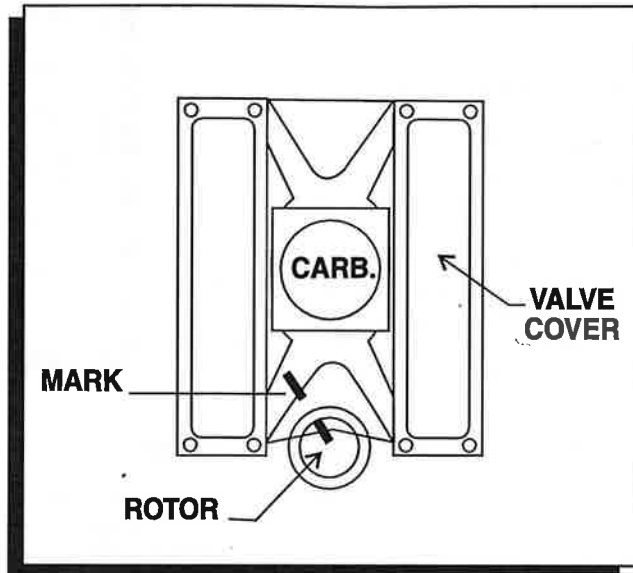

Figure 12 Marking the Rotor Location.
2. With the cap off, crank the engine until the rotor is aimed at a fixed point on the engine. Note this position by making a mark (Figure 12).
12. Connect the supplied wiring harness to the distributor. Route the wires to their connections as shown in Figure 12.